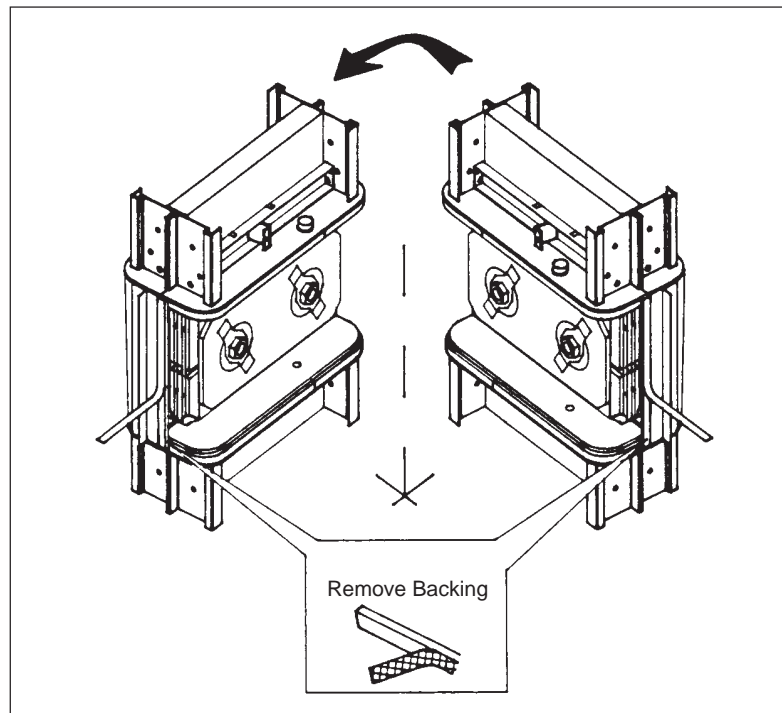

Figure 26
8. Expose the sealing strips on the covers (figure 26). Sealing strips are flush with the outside edges of the joint cover.